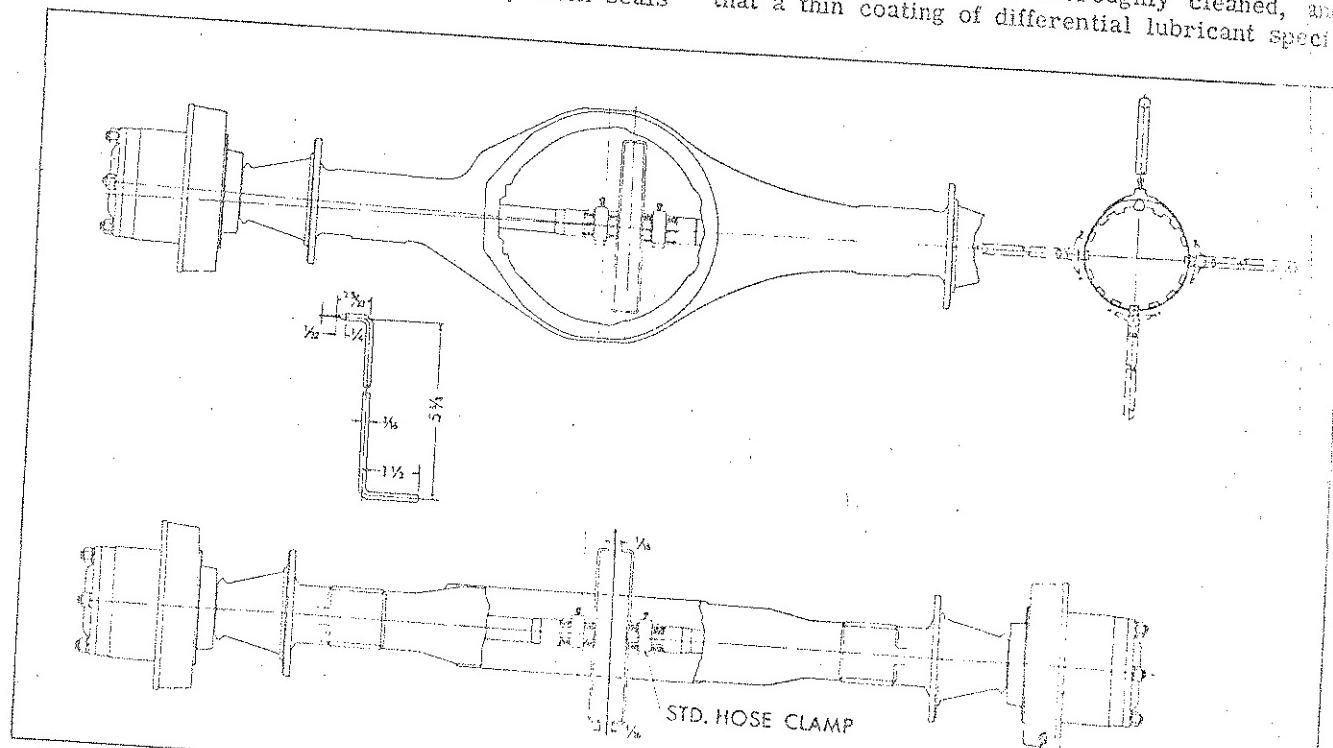

Figure 5—Housing Alignment Check
3. Indicators, as shown in figure 5, may be made locally from welding or drill rod (3/16" diameter) to dimensions shown. Make certain that burrs on axle shaft splines have been removed. Install indicators in place as shown in figure 5. Radiator hose clamps of suitable diameter may be used to secure indicators in position.
4. Each indicator must be positioned at right angle to its respective axle shaft after it is secured in place. Both indicators must be in alignment with each other. There should be a slight gap between the points as shown in figure 5. Insert a feeler gauge or measure gap between the indicator points, and make note of this dimension.
5. Place both indicators in alignment, then rotate both shafts simultaneously. Make a check of the gap dimensions between the indicators at four points 90 degrees apart, as shown in figure 5. If the gap at each point exceeds original predetermined gap by more than 1/16", axle housing is bent and should be straightened or replaced.